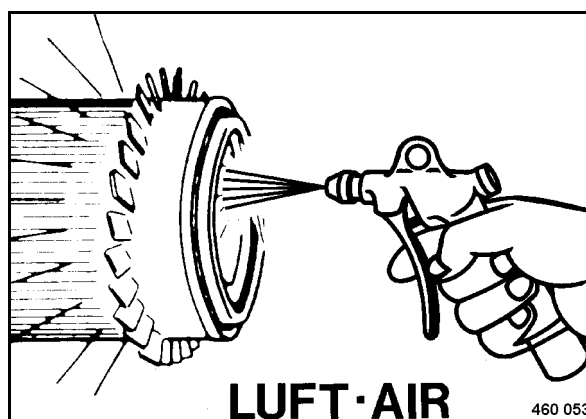

Fig. 90
- Blow the dry air filter (Fig. 90) out with clean and dry compressed air with a pressure of max. 7 bar.